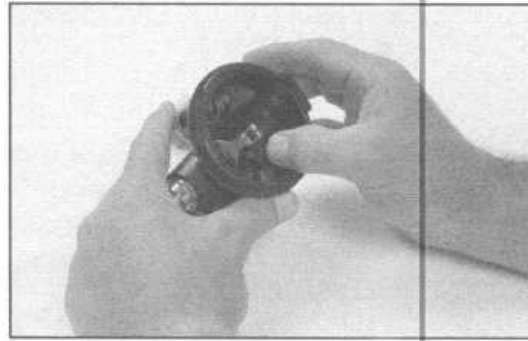

FIG 6-4
10. There is only one successful method to remove the adjustment tube (25) from regulator case (27). Refer to figure 6-4 and follow closely. Holding the regulator case in your left hand, place your right thumb inside the case locating on the shoulder of the adjustment tube. Place your middle finger on the end of the adjustment tube and push it into the case. The adjustment tube will now be easily manipulated downward past the demand lever valve assembly and out of the regulator case.